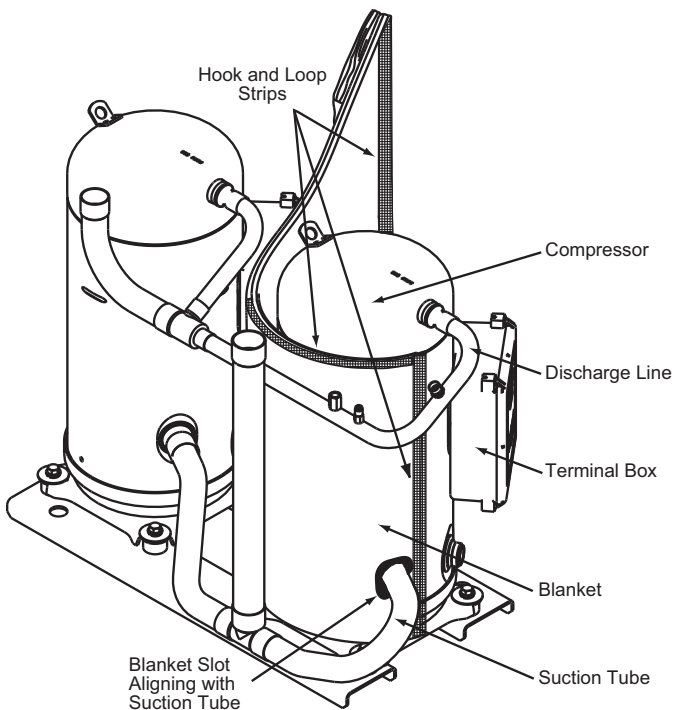

Fig. 4 — Align Blanket Slots with Suction Tube for Single and Tandem Compressors
3. Wrap the sound blanket around the compressors and tubing in clockwise direction. See Fig. 4 for single compressors and tandem compressors.
4. Align the slots in the blanket with the suction tube on the compressor. See Fig. 4 for single compressors and tandem compressors.
5. Secure the blanket near suction tube with the hook and loop strip strips. See Fig. 4 for single compressors and tandem compressors.